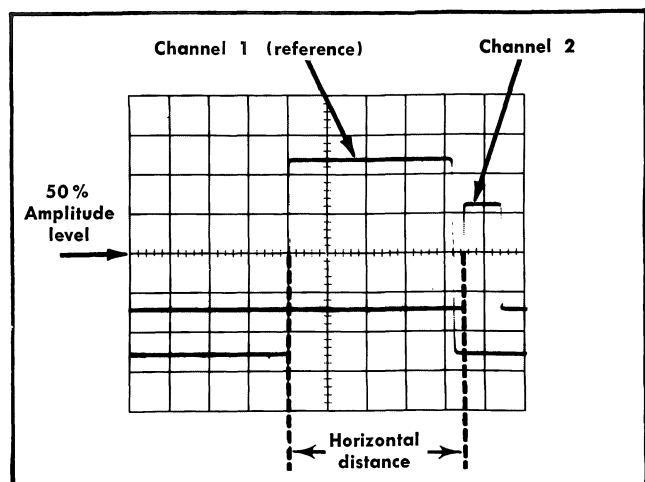

Fig. 2-18. Measuring time difference between two pulses.
11. Measure the horizontal distance between the Channel 1 waveform and the Channel 2 waveform (see Fig. 2-18).
EXAMPLE. Assume that the TIME/DIV switch is set to 50 μ s, the magnifier is on and the horizontal distance between waveforms is 4.5 divisions (see Fig. 2-18).